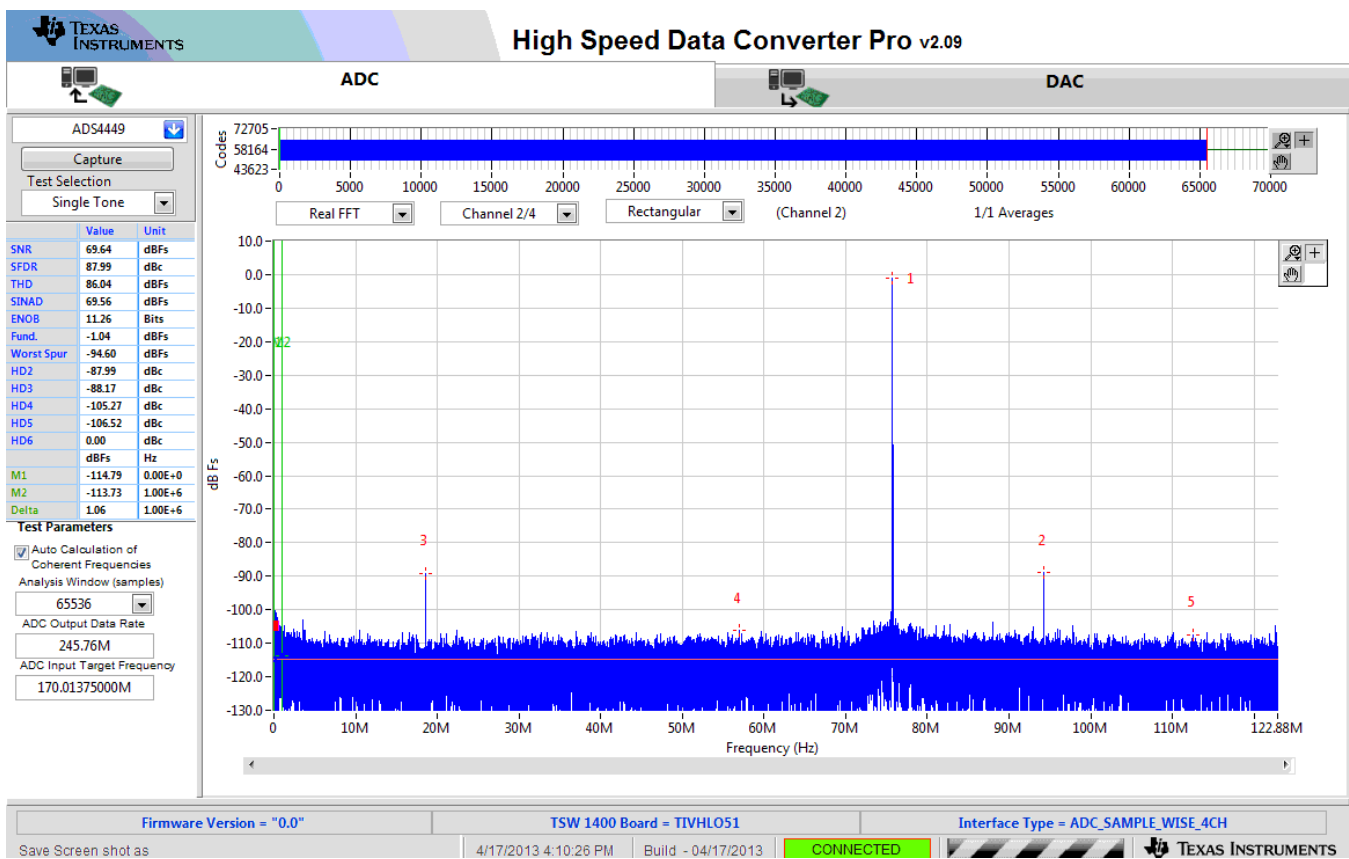

Figure 11. ADS4449 14-bit Operating Mode, Single Tone Test Result: $F_s = 245.76$ MSPS, $F_{in} = 170$ MHz
4. Select the number of sample points (and resulting number of FFT bins). The example shown in Figure 11 has 65536 samples.
5. Enter the ADS4449 sampling rate. The example shown in Figure 11 has the sample rate set at 245.76 MSPS.
6. Enter the input frequency desired. If the clock and input frequency signal generators are synchronized, then make sure the checkbox for coherent frequency is checked and set the input frequency signal generator to the input frequency displayed. The example shown in Figure 11 has the input frequency set at 170 MHz.
Observe an FFT result similar to that of Figure 11.